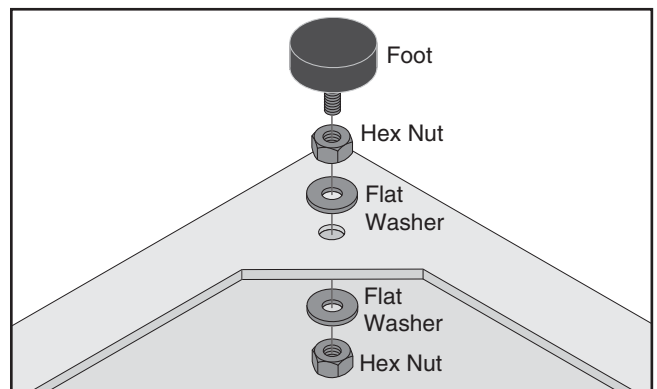

Figure 10. Stand foot installed (1 of 4).
3. Install the stand feet, as shown in **Figure 10**, in the bottom of the stand assembly, using a $\frac{3}{8}$ "-16 x 2" stand foot, (2) $\frac{3}{8}$ "-16 hex nuts and (2) $\frac{3}{8}$ " flat washers on each foot in the sequence shown.